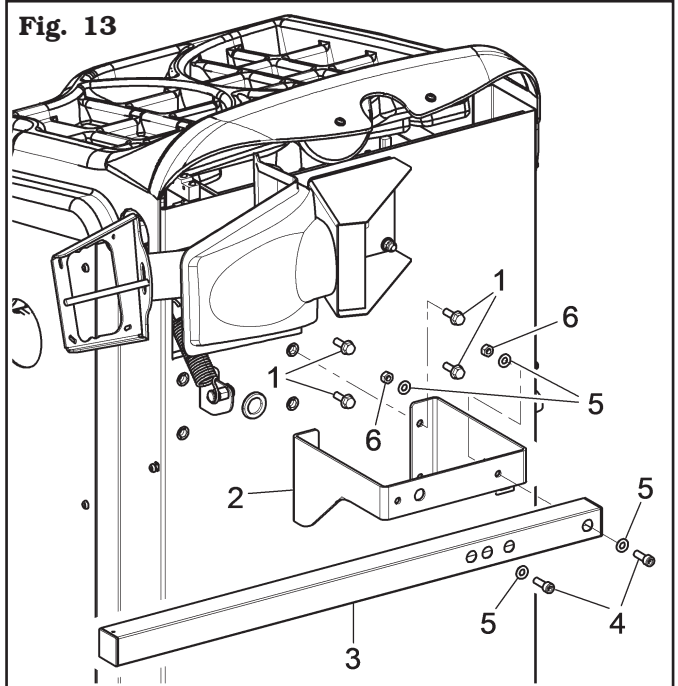
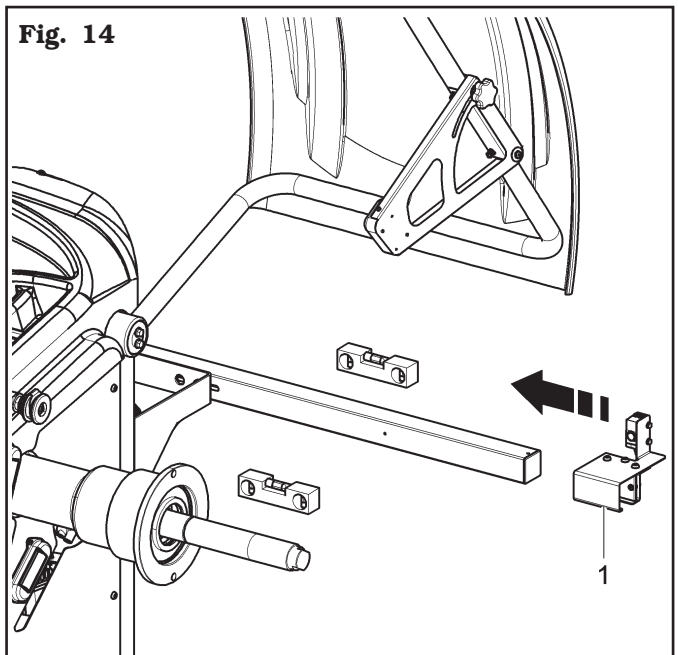

Fig. 13
Fig. 14
1. Introduce the 4 screws (**Fig. 13 ref. 1**) in the bracket (**Fig. 13 ref. 2**) and screw them on the special threaded rivets placed on the rear side of the frame. Lock support arm (**Fig. 13 ref. 3**) to the bracket (**Fig. 13 ref. 2**) with the 2 screws (**Fig. 13 ref. 4**) and washers (**Fig. 13 ref. 5**). Lock the screws (**Fig. 13 ref. 4**) with the washers (**Fig. 13 ref. 5**) and the nuts (**Fig. 13 ref. 6**) so that the shaft and the gauge arm are levelled out (see **Fig. 14**).
2. Mount the ultrasound Run-out (**Fig. 14 ref. 1**) as illustrated in **Fig. 14**.
i IF THE FRAME OF THE WHEEL BALANCER IS NOT EQUIPPED WITH THE 4 THREADED RIVETS, TO FIX THE GAUGE FIX THE BRACKET (**Fig. 13 ref. 2**) USING ONLY SCREWS (# 272038). BLOCK THE BRACKET FROM THE INSIDE WITH THE NUTS AND THE WASHERS SUPPLIED WITH THE DEVICE.